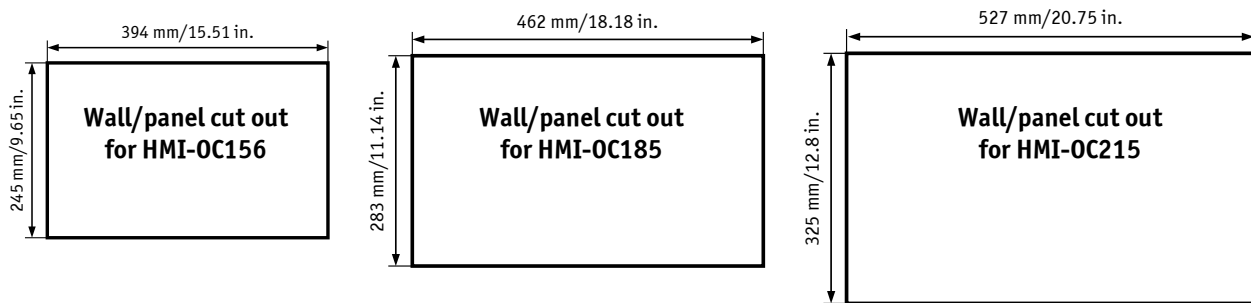

Fig. 35: Wall/panel cutout dimensions for OmniClient systems
1. Depending on the dimension of the display enclosure of your OmniClient, prepare a cutout in the wall/panel. Refer to Table 5 and Fig. 35 for the wall/panel cutout dimensions or to the corresponding mechanical drawings for your OmniClient on our web site www.kontron.com.